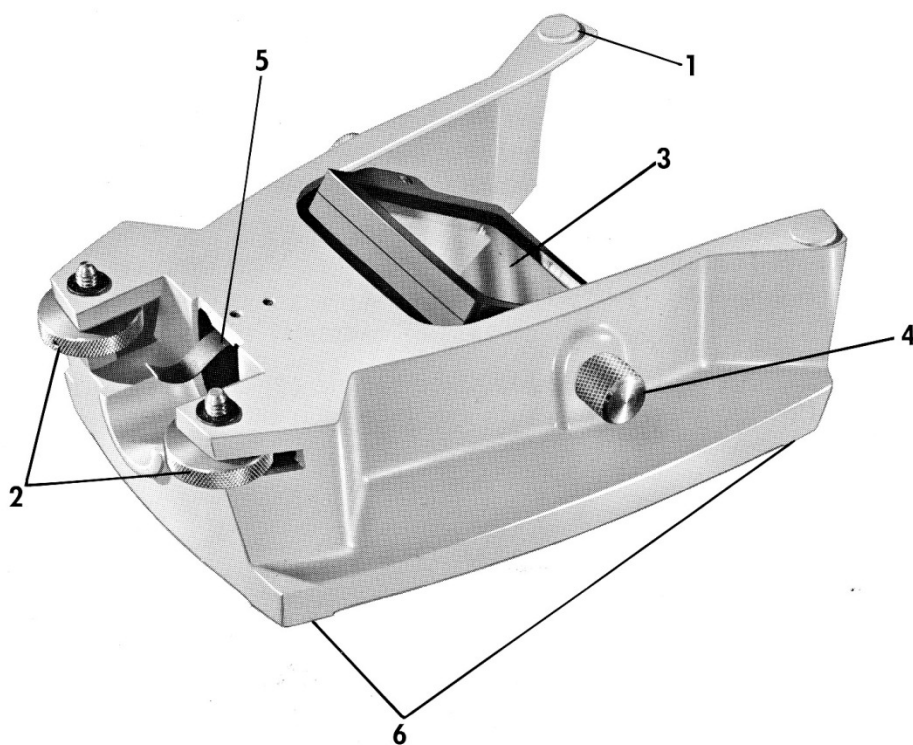

Figure 6. Transilluminator Base
2. Engage locating bosses (1, Fig. 6) into pad recesses of microscope base.
3. Tighten lock screws (2) by rotation to the right.